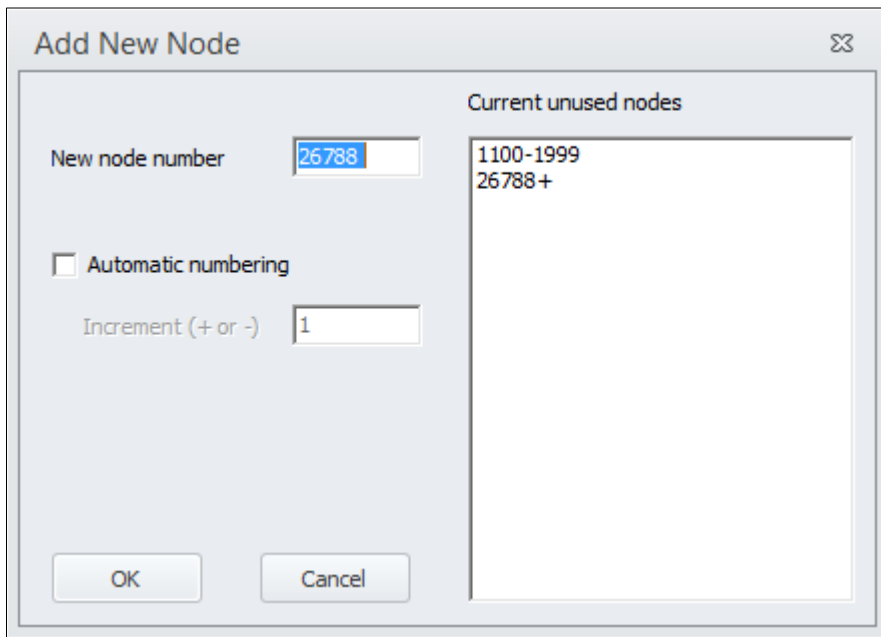

Figure 85 The Add New Node window
- 10) Click on "Yes" and then select a node value greater than 2000 (values up to 1999 are only for terminals and zones), see Figure 85.